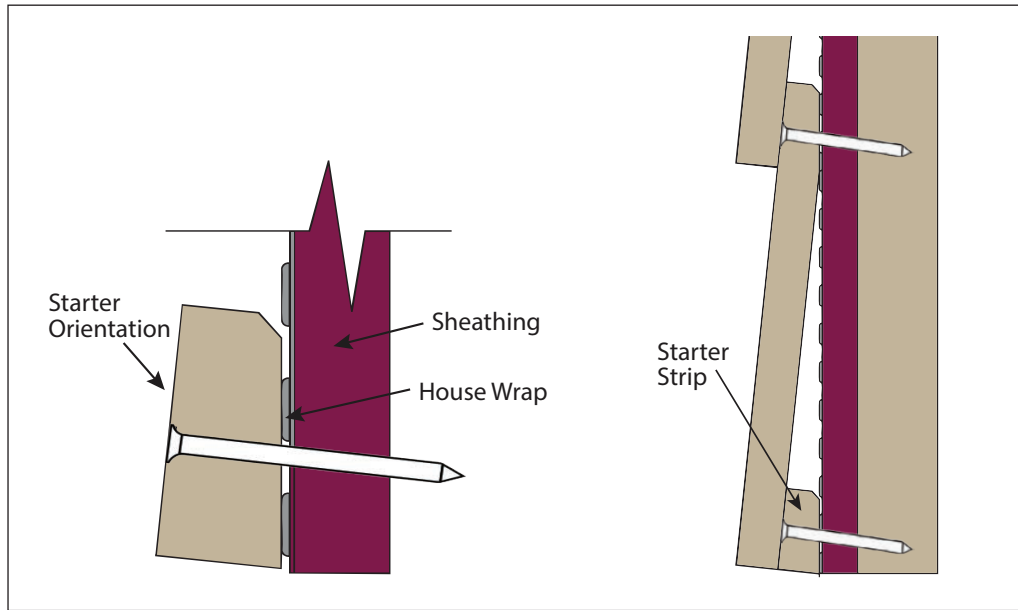

Fig. 31
- 1 (one) nail every 12" (**Fig. 31**)
- Fasten the starter strip first to give the first course of siding the proper angle (**Fig. 31**)